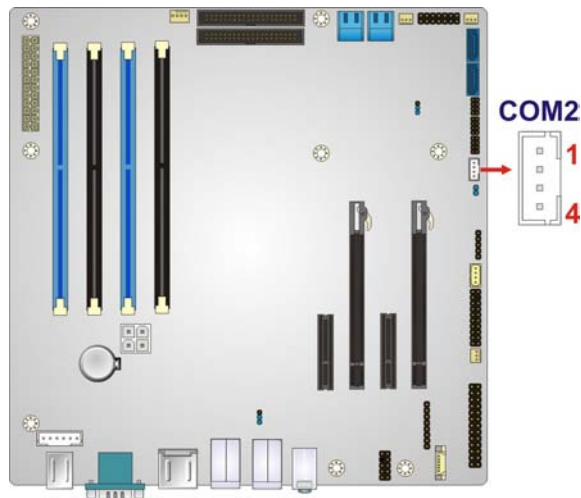

Figure 3-19: Serial Port Connector (RS-422/485) Location
- CN Location: See **Figure 3-19**